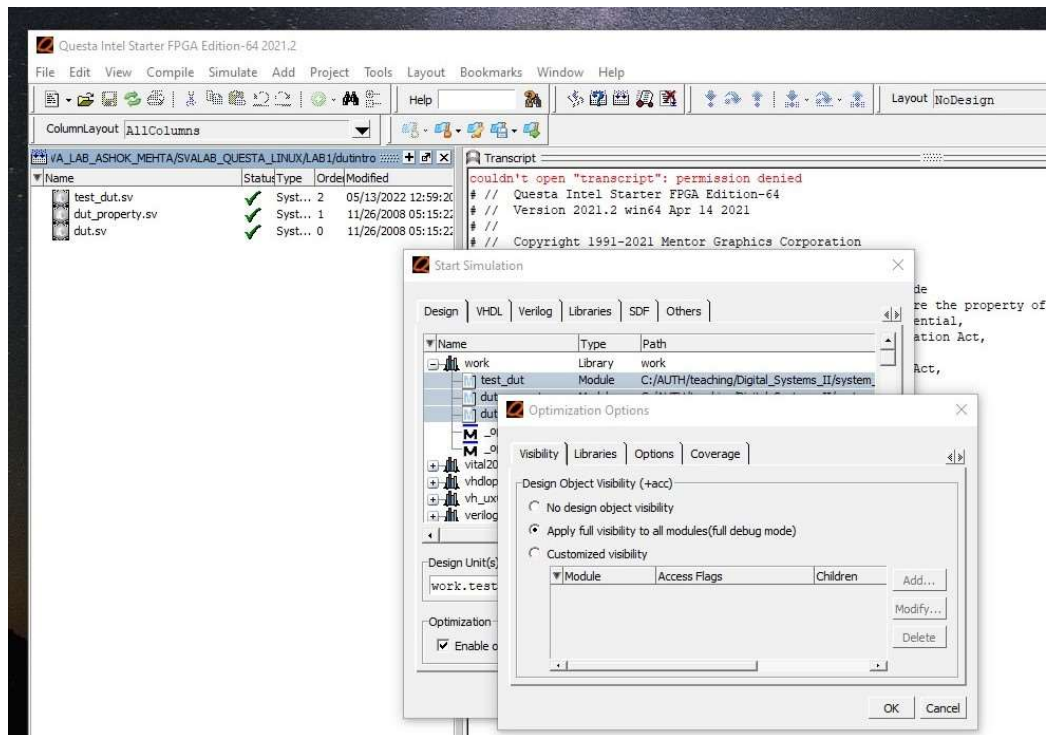
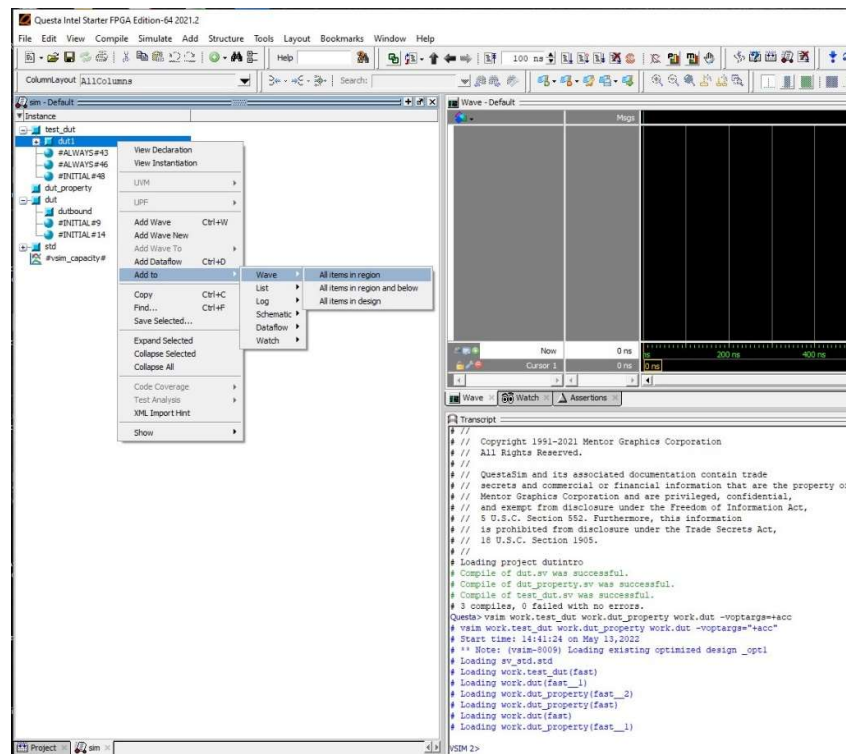

Fig. 11. Full visibility allows you to display all internal signals in the waveform window.
Fig. 12. Once the files are loaded for simulation, you can select which signals to be displayed (right click).
- Click on the optimization options and select full (or custom) visibility (Fig. 11 in Appendix) that allows to retrieve all signals in the design hierarchy to view these signals on the waveform window. Select the component dut and add its signals to waveform (Fig. 12 in Appendix).